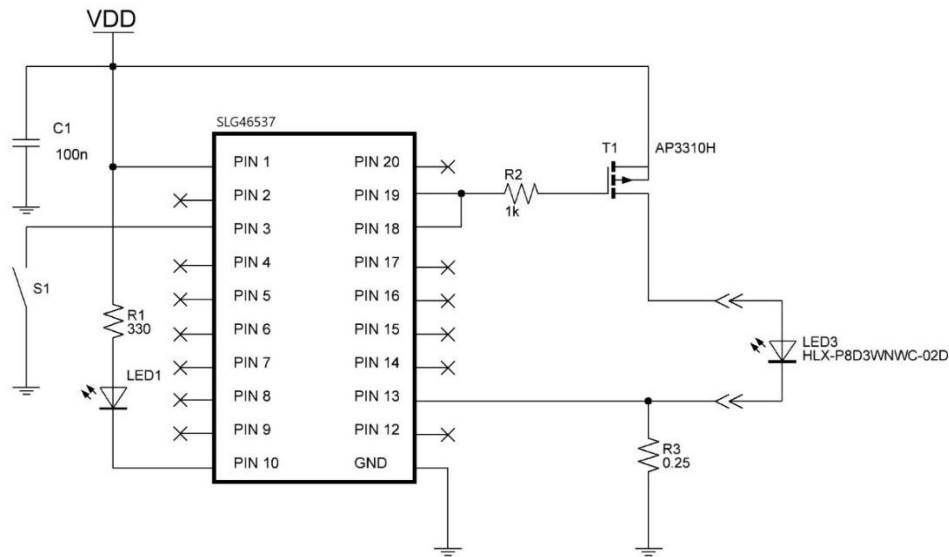

Figure 3. Flashlight circuit
- Figure 3. Flashlight circuit5